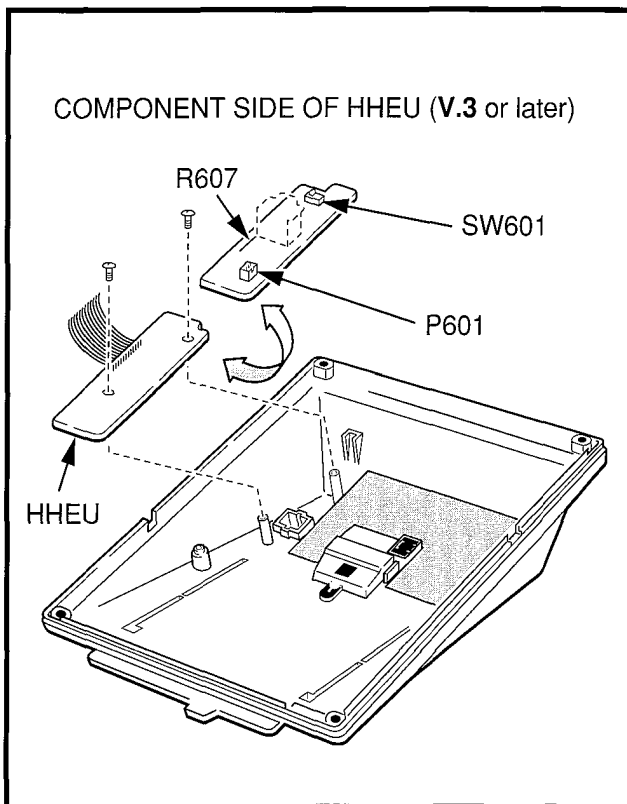

FIGURE 7-10—HHEU INSTALLATION FOR DIGITAL TELEPHONE
- 3) Set the **SW601** switch on the HHEU to HEADSET for the headset/loud bell application (Figure 7-10).
- 4A) Connect the HESC-65A cable to P601 of the HHEU if the loud ringing bell option is required (see Figure 7-10).
- 4B) If the headset receiver is not to receive OCA, cut one side of the **R607** resistor on the HHEU (Figure 7-10) and then remove the resistor to eliminate electrical contact.
- 5) Position the HHEU PCB on the standoffs inside the base (Figure 7-10), and secure with the two screws provided.